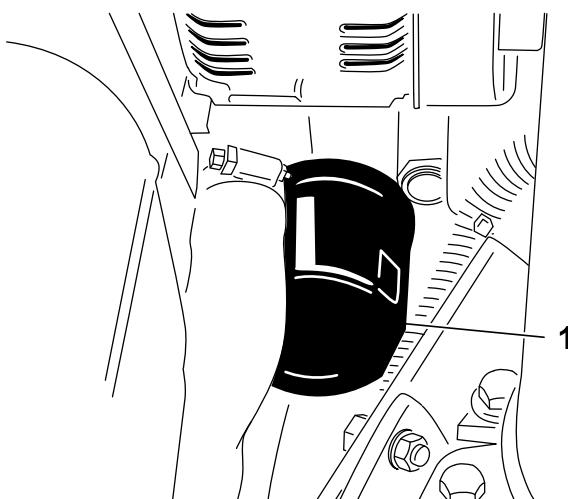

Figure 48
2. Remove the oil filter (Figure 48). Apply a light coat of clean oil to the new filter seal before screwing it on. **Do not overtighten.**